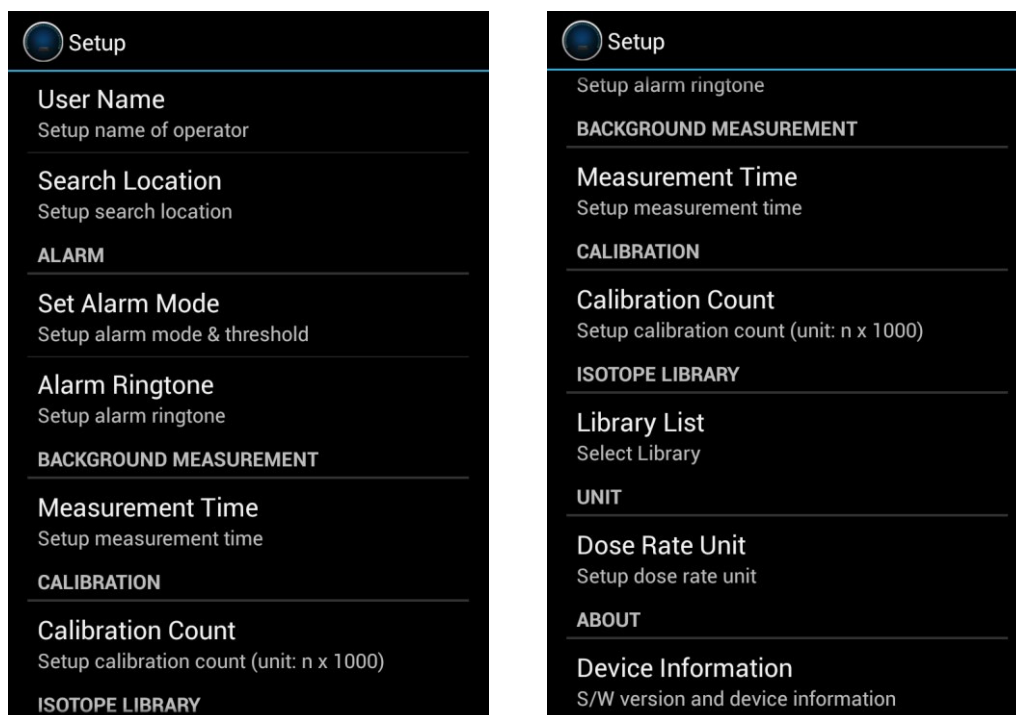

Figure 4.9. Setup menu screens
The factory default Administrator password is 1234. To change the password, open the Setup menu and select Device Information / Password (Figure 4.9).
4. Select **User Name** and enter the appropriate information (Figure 4.9). Enter the **Search Location** likewise.
The default dose rate unit is rem/h and can be changed to Sv/h. To change this setting, select Device Information / Dose Rate Unit from the Setup menu (Figure 4.9).
To be identifiable, the isotopes must be in the selected Isotope Library. If a custom Isotope Library is selected, you can look up its name by opening the Setup menu and scrolling down to the Library List option (Figure 4.9).